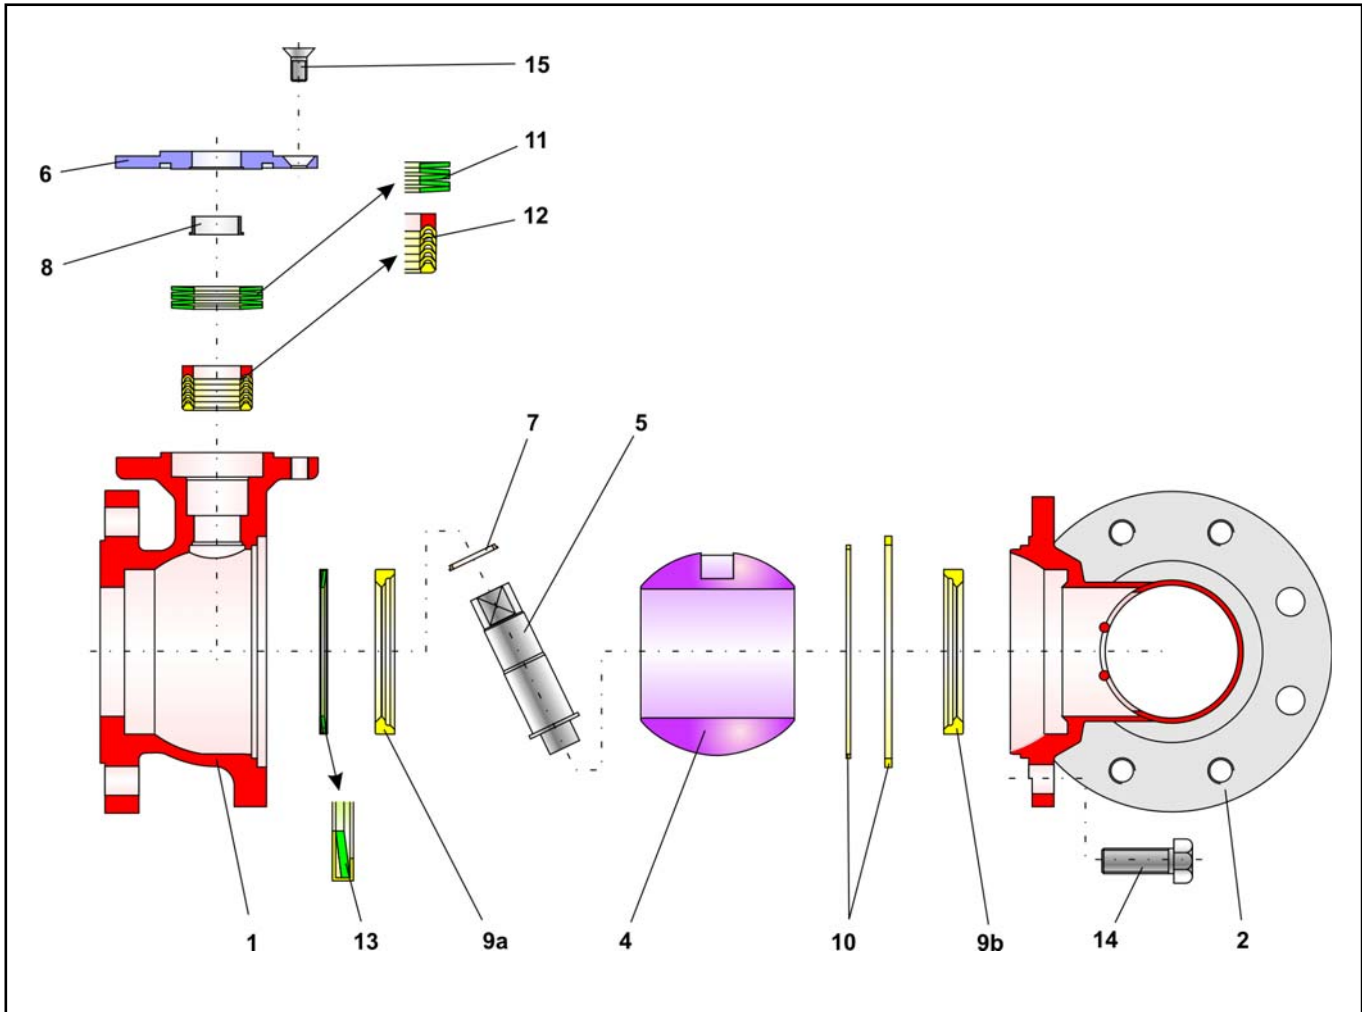

Fig. 3 - Explosion drawing of metering valve series 28a/x
**Note:** The position and arrangement of the individual parts shown in the explosion drawing ( Fig 3 ) must be observed when assembling the valve.
The assembly begins with the main body ( 1 ). Insert the lined spring washer ( 13 ) in the main body ( 1 ). Refer to the drawing ( Fig 3 ) for the assembly position of the spring washer.
With a light rotating movement, press the V-ring packing ( 12 ) over the control shaft ( 5 ) and insert in the packing chamber of the main body ( 1 ). Refer to the explosion drawing ( Fig. 3 ) for positioning the V-rings.
Now the spring washer set ( 11 ) is placed on the V-ring packing. Also here, refer to the explosion drawing ( Fig 3 ) for positioning the spring washers